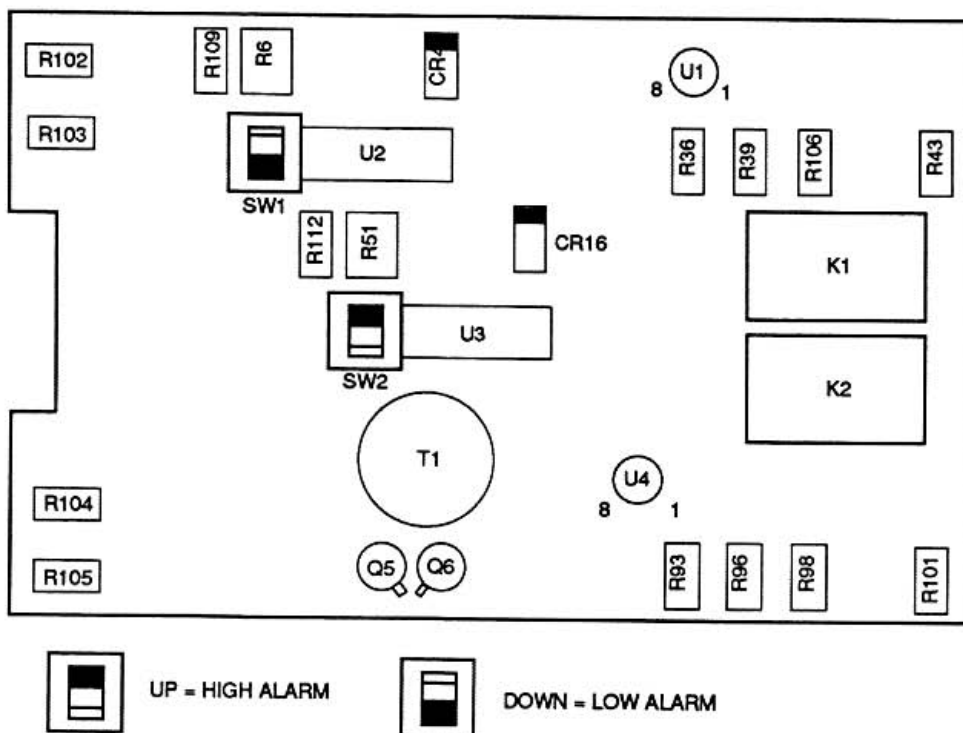

Figure 6. RBA-ED Component Locations
5. Verify that switches SW1 and SW2 (dual alarm) are set for a high or low alarm, as specified. See figure 6.